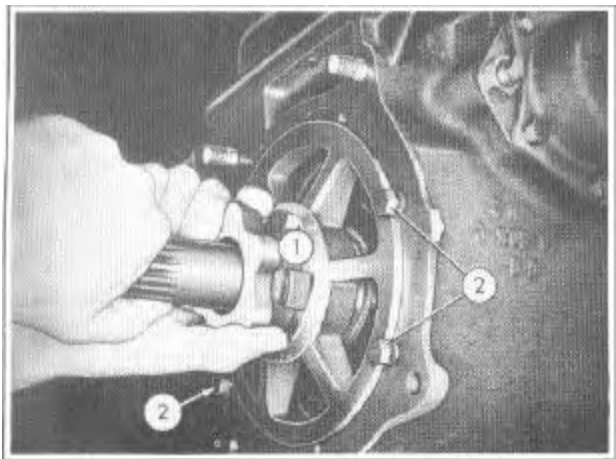

FIGURE 89
2. Install the Mainshaft End Play Checking Gauge J-4668 over the mainshaft and front ring gear shaft and fit it into the transmission case, Figure 89.
3. Hold the gauge against the transmission case and retain it securely in position with three of the oil pan attaching screws (2), Figure 89.